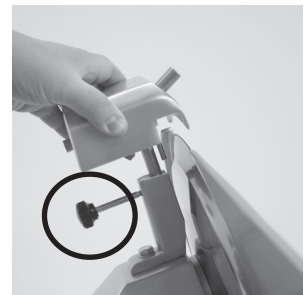
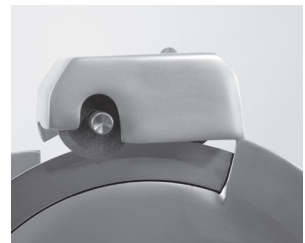

Figure 14-1
Figure 14-2
4. Loosen the sharpener release knob by turning it counterclockwise several times (Fig. 14-1).
5. Lift the sharpener cover up (Fig. 14-1), rotate it clockwise and lower it into position with the knife fitting between the two stones (Fig. 14-2).
6. Tighten the sharpener release knob (Fig. 14-1) to secure the sharpener.